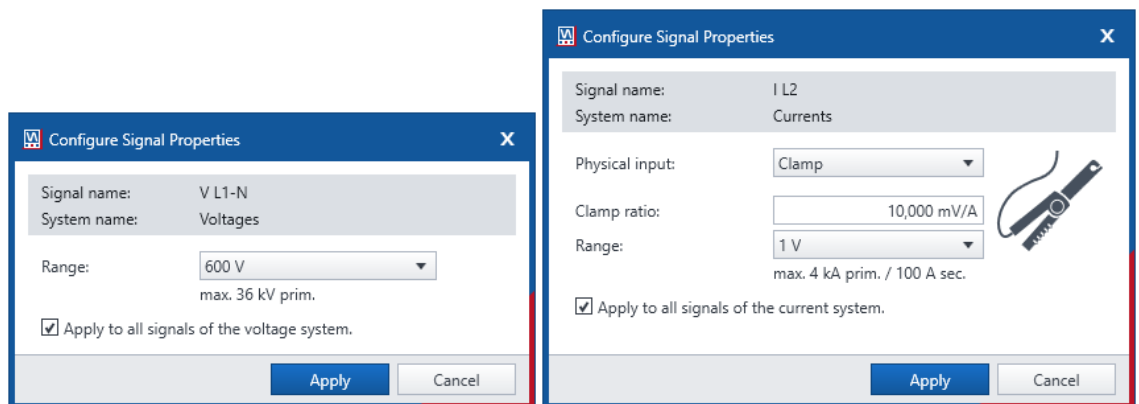

Figure 3: Configuration of analog measurement inputs for voltage (left) and current (right).
- c. Configuration of the analog measurement inputs by setting the according *Range* and, for current inputs only, the correct kind of *Physical input*, as shown in Figure 3: